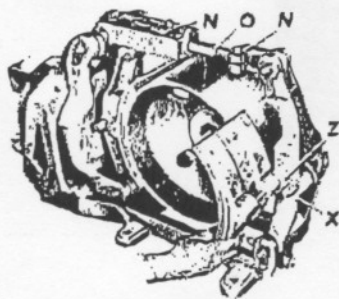

Fig. 8—10" and larger Brakes. With brake torque released and shoes unclamped, shoes can be removed from either side of brake.
**SHOE REPLACEMENT 10" AND LARGER BRAKES (Figs. 8 & 9)**
With brake released†, rotate Shoe Clamp Shaft (X in Figs. 8 and 9) fully to mechanical stop (it will only go one way). Shoe will be completely disengaged only when Stop Pin on shaft (Y in Fig. 9) rests against underside of shoulder (Z in Figs. 8 and 9) on Shoe Arm. Shoe may now be slid out from either front or rear of brake (see Fig. 8).
**SHOE REPLACEMENT (cont'd) 10" AND LARGER BRAKES (Figs. 8 & 9)**
Bar Eye Clamp Bolts (N in Fig. 8) and turning Adjusting Bar (O in Fig. 8) to spread arms apart. Slide new shoes in from either side, being sure the clamp is still fully released, and lock in place by turning Shoe Clamp Shaft to original position. **Shaft must rotate fully to mechanical stop to assure positive locking of shoes.** Apply torque to brake and readjust air gap. Check shoe clearance and equalize if necessary.